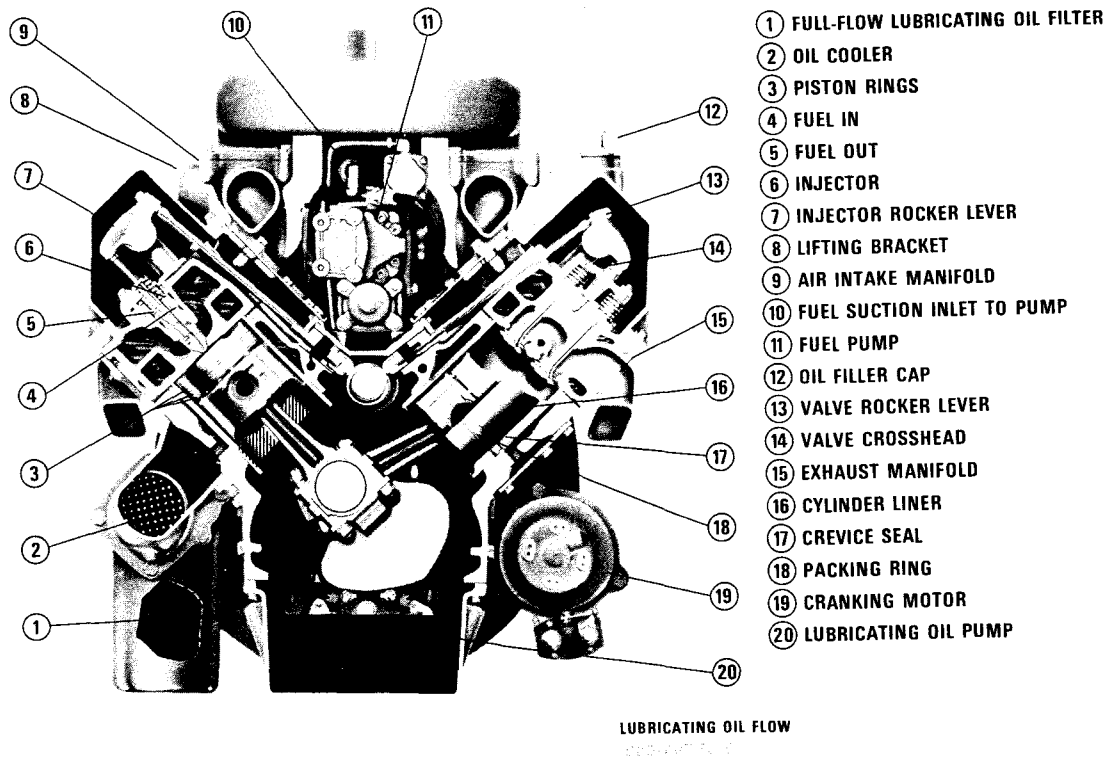

Fig. 5-17, (LWC-4). Lubricating oil and coolant flow — V-378, V-504, V-555 Engines
1. Oil flows from filter to right bank oil drilling at rear of engine to accessory drive gear, rear cam bushing and rear main bearing which in turn supplies the two rear connecting rods. Fig. 5-17.